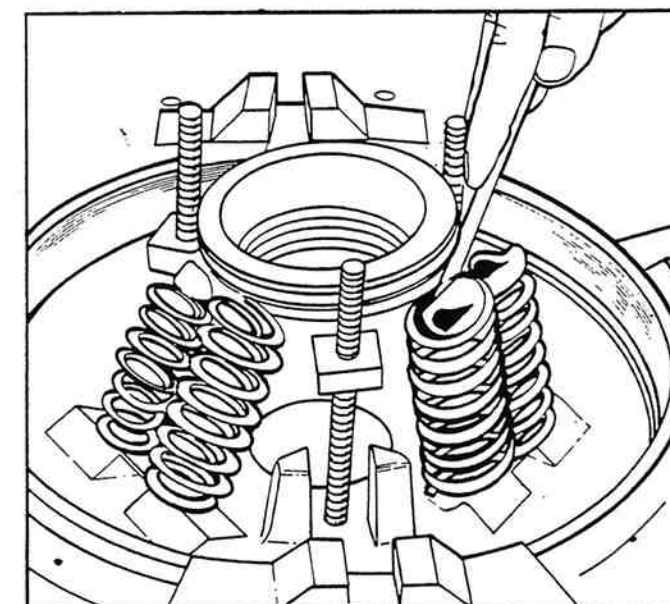

Figure 5-12. Remove Springs and Pivots.
13. To disassemble pressure springs and retainer, compress retainer to relieve load on hex nuts. Back off hex nuts and remove load on pressure springs. Remove pressure springs and spring pivots (figure 5-12).